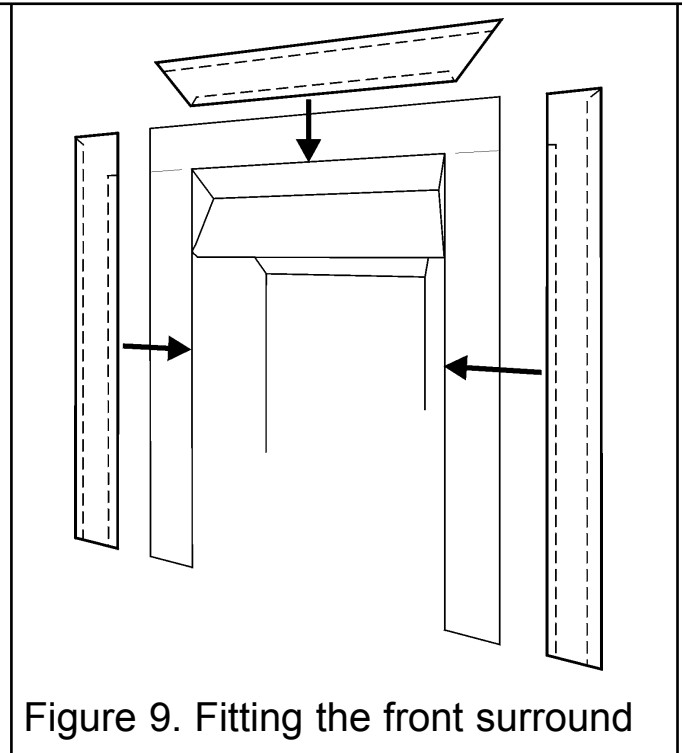

Figure 9. Fitting the front surround
1. The front surround is supplied in three sections. Remove any protective film. The two longer sections are the left and right sides. The shorter section is the top. The left and right hand sections have folded edges, one of which is shorter than the other. This shortened edge should be fitted at the inner top on both sides. Fit the top section last and centralise (See figure 9)